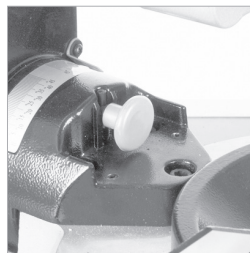

Fig. 35
- Pull out the Right Hand Bevel Access Pin. (**Fig. 35**) Twist the pin ¼ of a turn to keep it in the disengaged (outer) position.